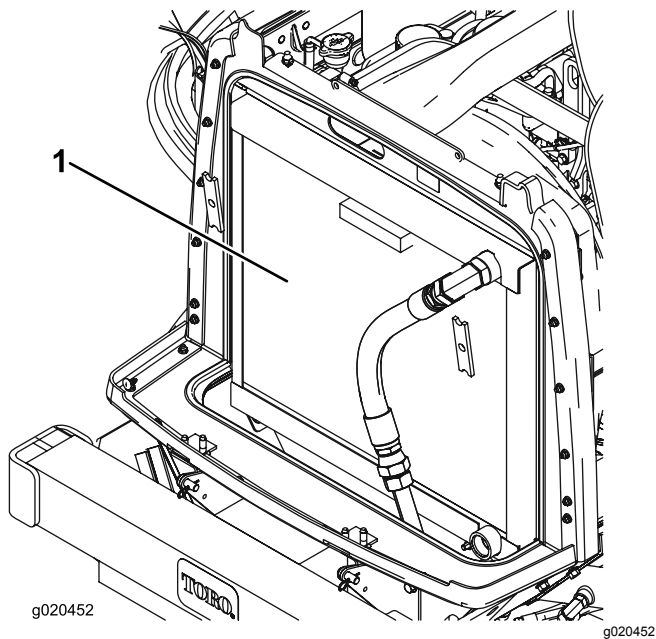

Figure 99
3. Clean both sides of the radiator/oil cooler area thoroughly with compressed air (Figure 99).